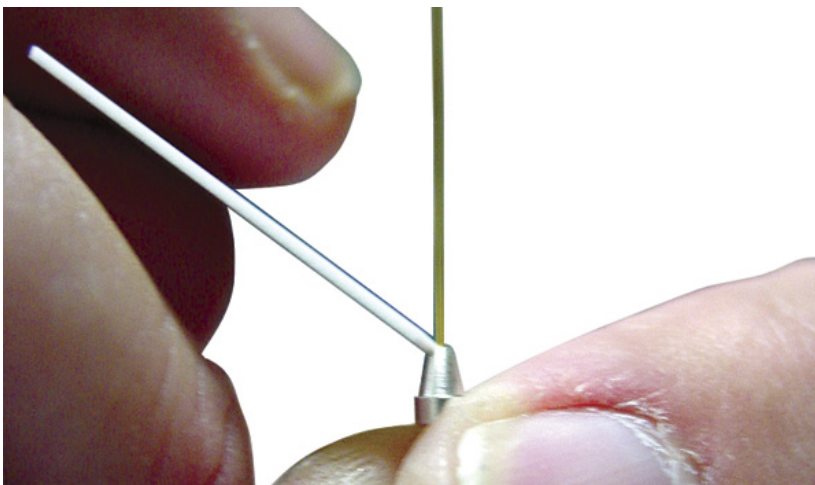

Figure 9 Ceramic column cutter and ferrule
- 5 Using a ceramic column cutter, trim the tubing at the small end of the ferrule leaving approximately 0.3 mm of tubing extending beyond the ferrule (Figure 9).